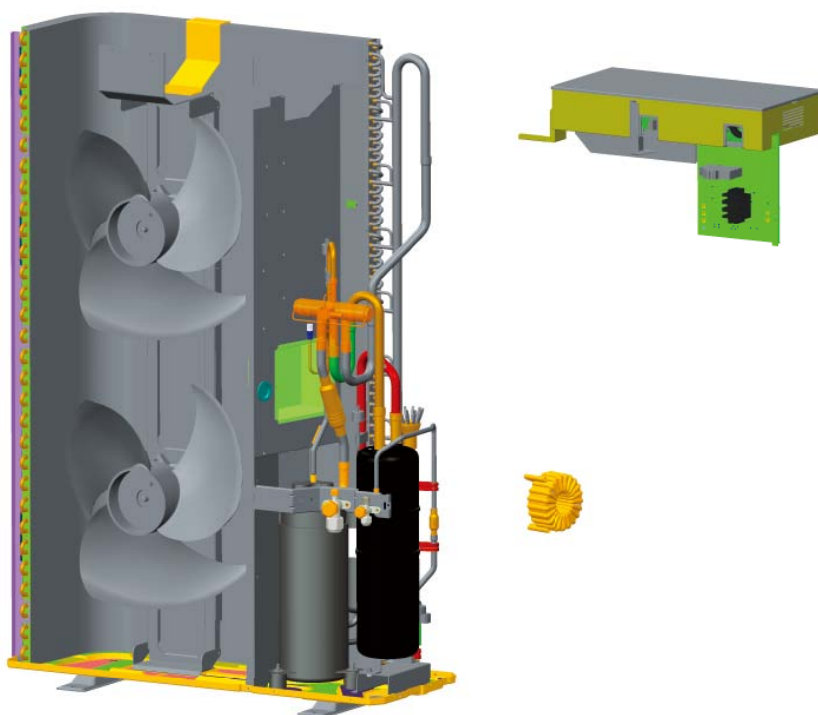

Fig.8
- Loosen the two tapping screws, and remove the electric box assy .[See Fig. 8]